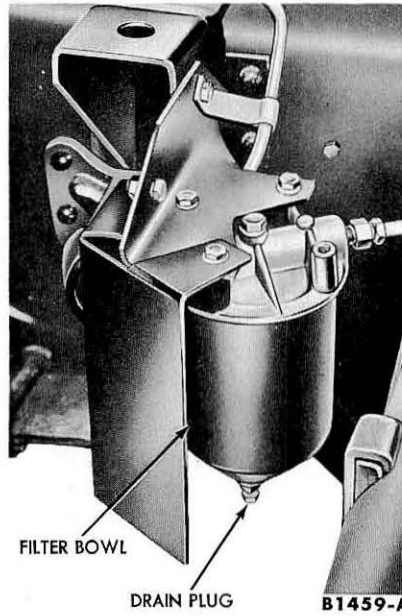

FIG. 6—332 HD Fuel Line Filter Installation
7. Drain Fuel System Filter—332 HD V-8. Remove the drain plug (Fig. 6) and drain the fuel from the filter into a suitable container. After draining, install the drain plug.